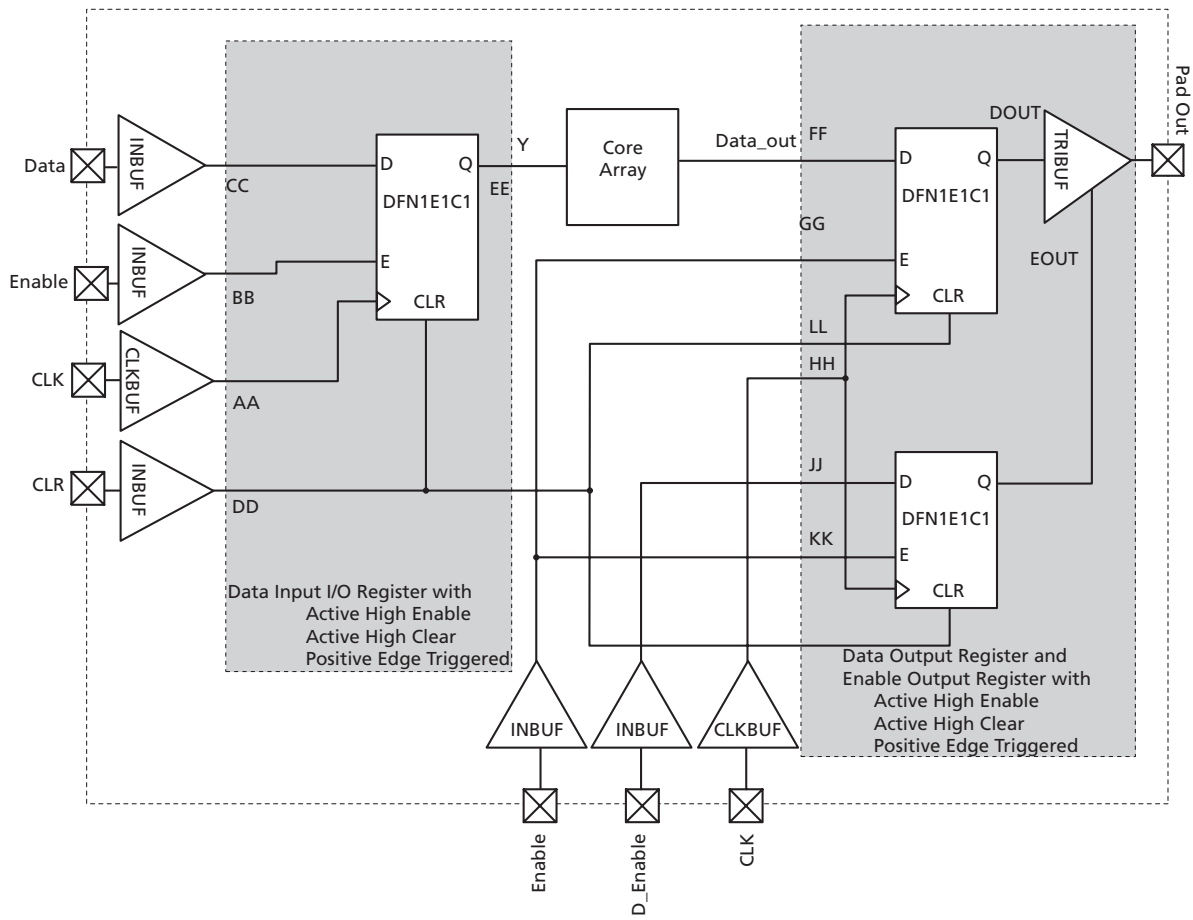

Figure 2-130 • Timing Model of the Registered I/O Buffers with Synchronous Enable and Asynchronous Clear
*Note:* \*See Figure 2-130 on page 2-208 for more information.